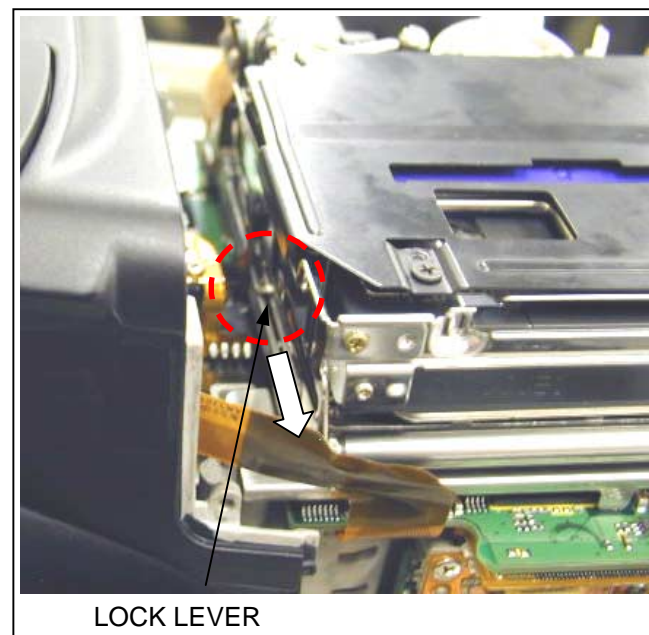

Figure 3
5. Push the lock lever to arrow direction as shown in figure 3 to eject the Cassette Up Unit and remove the tape.